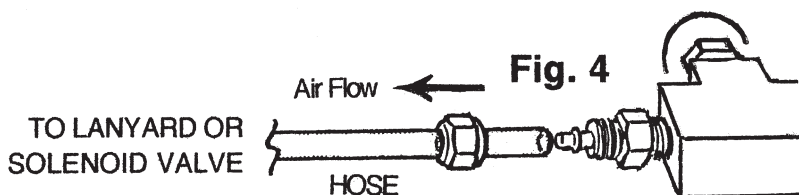

Fig. 4
6. Using the plastic hose provided, cut to size to connect the tank to the horn's lanyard or solenoid valve. Place the brass-fitting nut onto the plastic hose. Push the hose onto the tanks male fitting. Tighten the brass nut onto outlet fitting. **CAUTION:** Do not over tighten fittings. (Fig 4.)